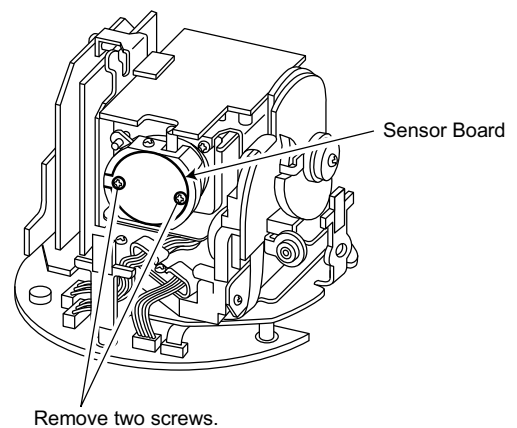

Fig. 2-9
- Referring to Fig. 2-9, remove two screws that secure the Sensor Board and remove the Sensor Board.